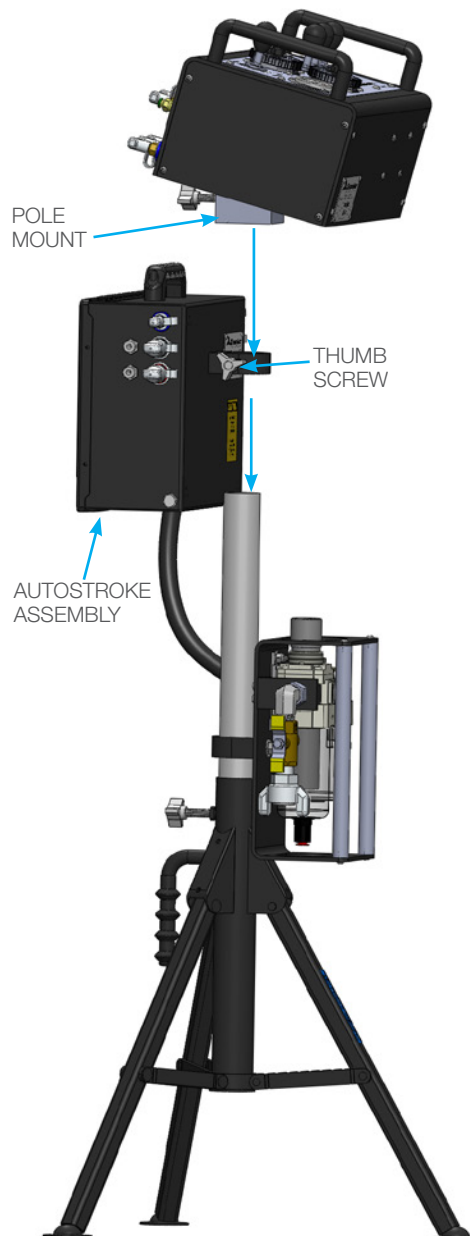

FIGURE 2
2. Slide the AutoStroke Assembly onto the Mounting Pole, with the Decal side facing away from the FRL. Then hand tighten the Thumb Screw. Then slide the Control Assembly back onto the Mounting Pole. Then hand tighten the Thumb Screw to secure the Control Assembly to the Mounting Pole. **(Figure 2)**
2. Connect the **LONG** 1/4" I.D. Hose to the fitting marked "**CLAMP**" on the right side of the AutoStroke and the opposite end to the "**CLAMP**" fitting on the ABX-3L. Insert the ends of the 1/4" **BLACK** and **RED** tubing into the press lock fittings on the right side of the AutoStroke. Push the opposite ends of each tube into the color labeled, press lock, fittings on the manifold atop the ABX-3L. Connect the **BLACK** and **RED** 1/2" lines to the right side of the AutoStroke marked "Forward" and "Reverse" and connect the opposite ends to the manifold on the ABX-3L. **(Figure 2 & 3)**